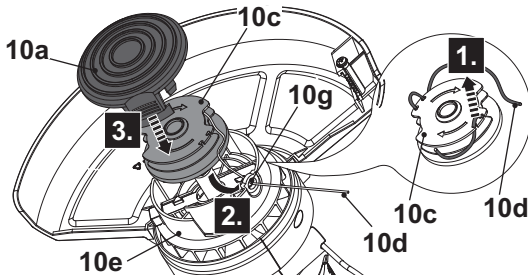

Fig. 18
6. Release the trimming line (10d) from the notches and hold it in position. Avoid the trimmer line (10d) scattered from the trimming spool (10c) (Fig. 18, Step 1).
7. Lead the trimming line ending through the eyelet (10g) on the housing (10e) (Fig. 18, Step 2).
9. Insert the trimming spool (10c) into the housing (10e) (Fig. 18, Step 3). Twist the spool until it locks into place.